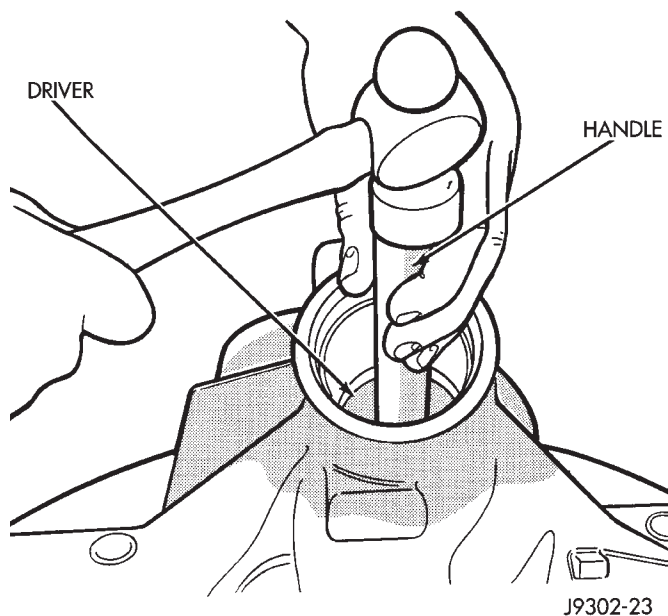

Fig. 23 Rear Bearing Cup Removal
(6) Remove the rear bearing cup from housing (Fig. 23). Use Remover D-149 and Handle C-4171.